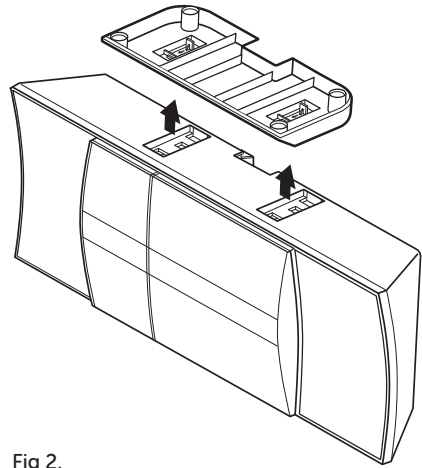

Fig 2.
4. The stand will now lift away from the micro system. **(Fig 2)**